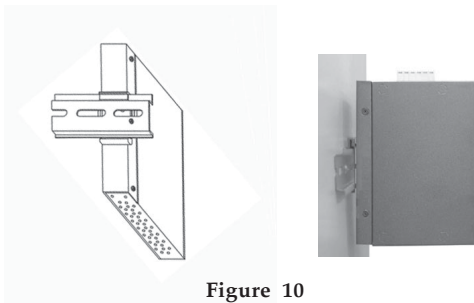

Figure 10
2. Insert the top of the DIN rail clip onto the DIN rail track, then lightly push the bottom of the switch to snap to the DIN rail track into place, see **Figure 10** on the next page.